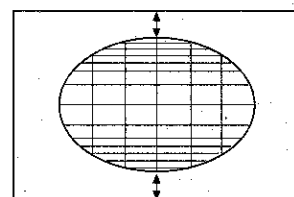

Fig. 11
- Adjust the S-correction to obtain a balance between upper, lower and center (fig. 11).